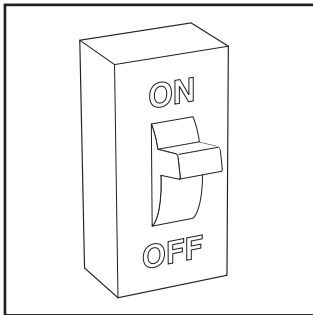

Fig. 13 - Turn on Electrical Supply
8. Turn ON the electrical supply to the furnace and wait 1 minute. See Fig. 13.